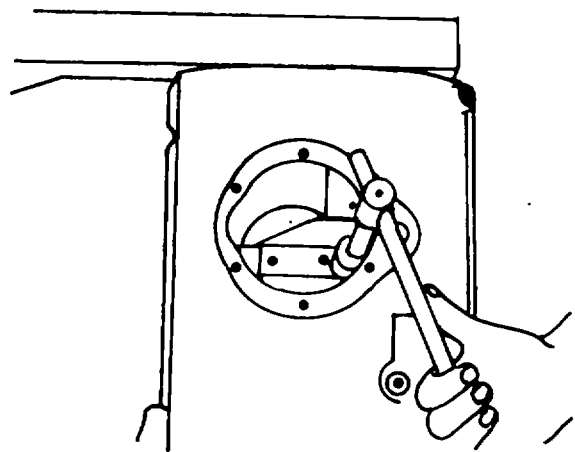

Figure 5-15. Remove Crankshaft Bearing Caps
- h. Disassemble the crankshaft bearing caps (figure 5-15).